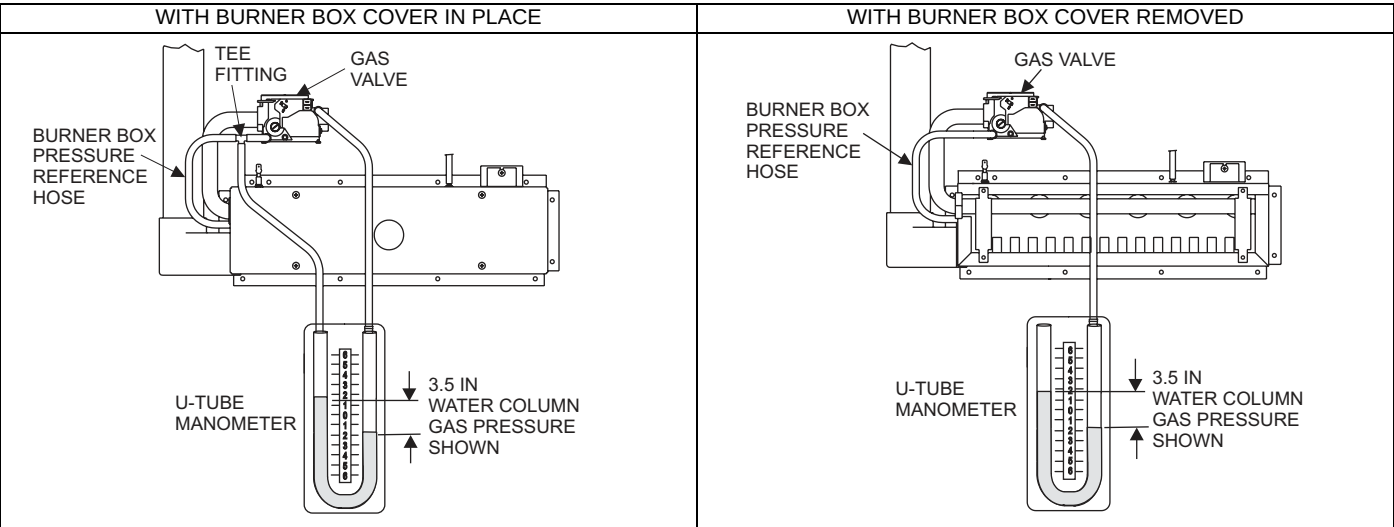

FIGURE 39: Reading Gas Pressure
- E. Use the 5/16" (0.8 cm x 1/8" (0.3 cm) reducing coupling and a 4" (10.2 cm) piece of 1/8" (0.3 cm) tubing to connect the positive side of the manometer to the gas valve pressure reference port. Refer to Figure 39 for connection details.
Reading the gas pressure with the burner box cover removed - Remove the screws securing the burner box front cover plate. Remove the cover. The gasket and may stick in place. Connect the positive side of the manometer to the gas valve as described in E above. There will be no second connection to the manometer, as it will reference atmospheric pressure. Refer to Figure 39 for connection details.